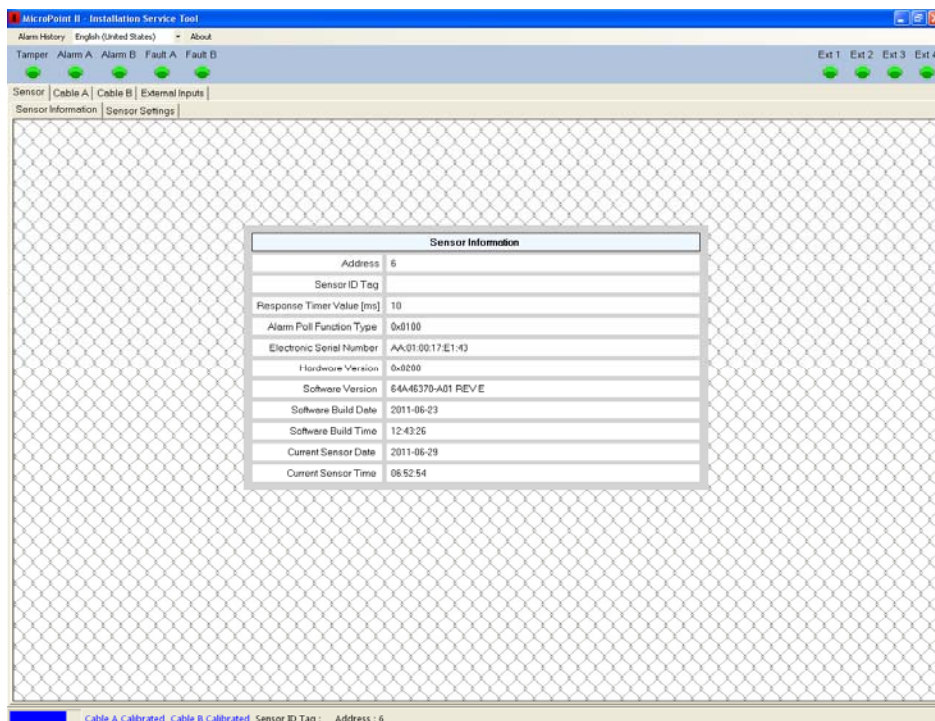

Figure 4.2 – Sensor Information Screen
Once the INTREPID™ MicroPoint II icon has been selected, the Installation Service Tool “Sensor” tab for the MicroPoint II will open as shown in Figure 4.2. There are two (2) sub tabs: Sensor Information and Sensor Settings.
Selecting the “Sensor Information” tab will open the screen as shown in Figure 4.2. This screen will display basic PM II information. The information displayed is: